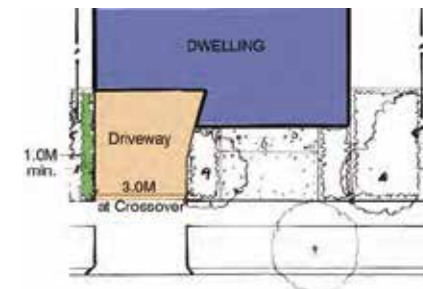

Figure 14
- Where possible, driveways must be offset a minimum of 1.0m from the side boundary to allow for landscaping. (Refer to Figure 14 Driveways).